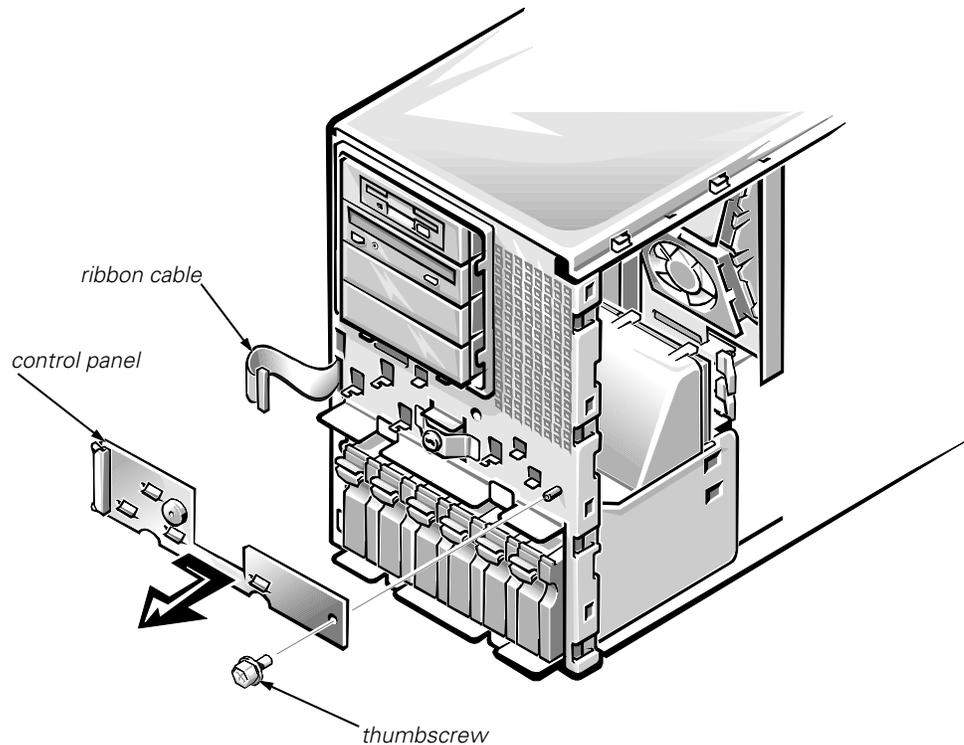

Figure 4-3. Control-Panel Assembly Removal
- 1. Disconnect the ribbon cable from its connector on the left side of the control panel assembly (see Figure 4-3).**